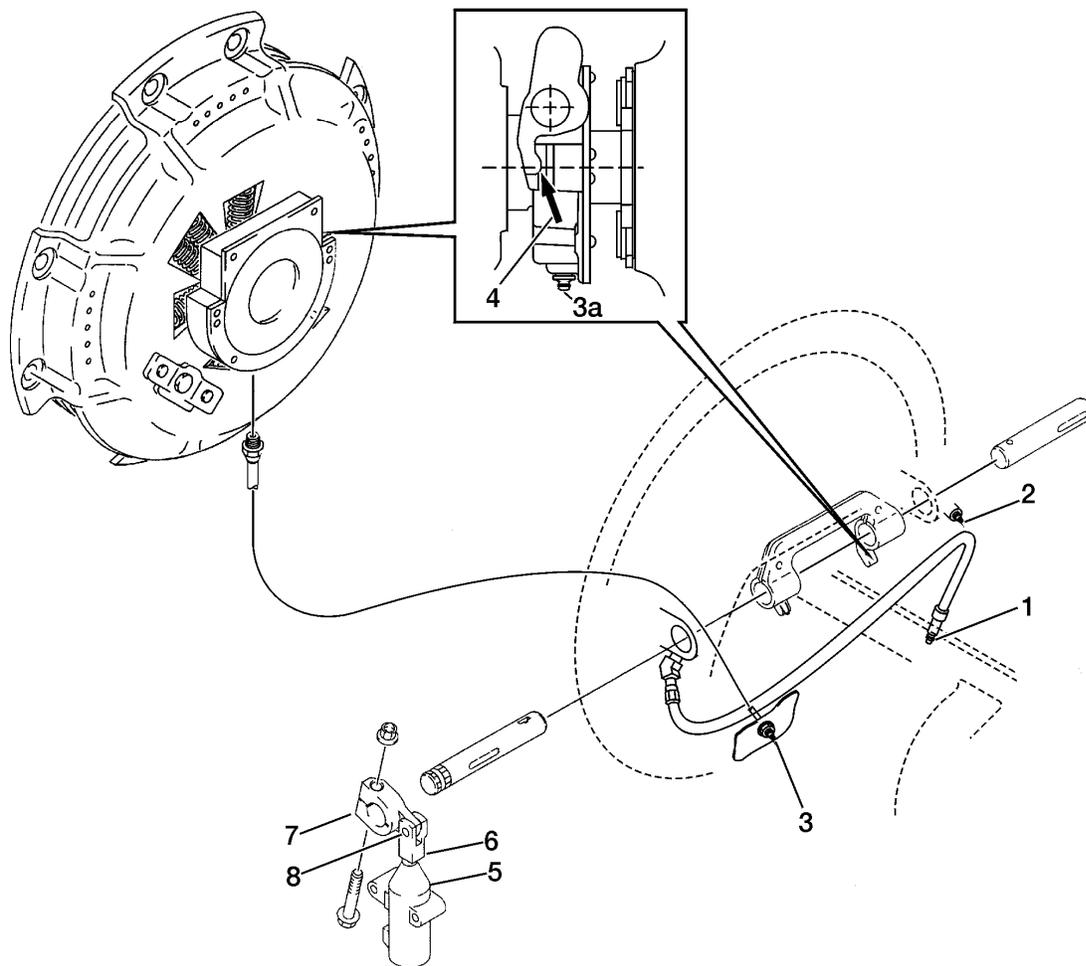

Fig. 1: Clutch Components
- 1 Grease the cross-shafts on left and right sides (1 and 2); see Fig. 1: Clutch Components, page 2. Depending on the option, the lubrication points may be lube fittings directly on the shaft bearings in the bell housing or a hose from the right side fitting pulled down to the lower part of the transmission on either the right or the left side.
- 2 Grease the release bearing. The lube fitting may be mounted in the lower inspection cover (3), connected to the bearing with a hose. The fitting can also be installed directly in the bearing (3a), in which case the inspection cover must be removed for servicing; see Fig. 1: Clutch Components, page 2.
- Inspect the yoke (6), pin (8), and lever(7) for wear; see Fig. 1: Clutch Components, page 2. Replace as necessary.